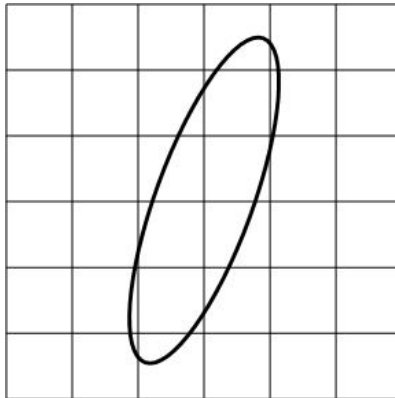

Figure 2. Typical FM deviation oscilloscope display (zero beat method).
(2) Connect TI **COMP** (rear) to **Channel 2** input of oscilloscope, and synthesizer/level generator **OUTPUT 50 Ω** to **Channel 1** input of oscilloscope.
(3) Enter a frequency of 108.000 MHz into TI and press **TONE SELECT 9960 FM** only (**30 Hz VAR OFF**) pushbutton.
(4) Adjust synthesizer/level generator frequency to 9475 Hz and output amplitude controls to 0 dBm.
(5) The oscilloscope will display a slowly oscillating circle or ellipse as shown in figure 2.
(6) Adjust oscilloscope **CH1** and **CH2 Vertical Scale** (volts/division) controls for a sharply defined display.